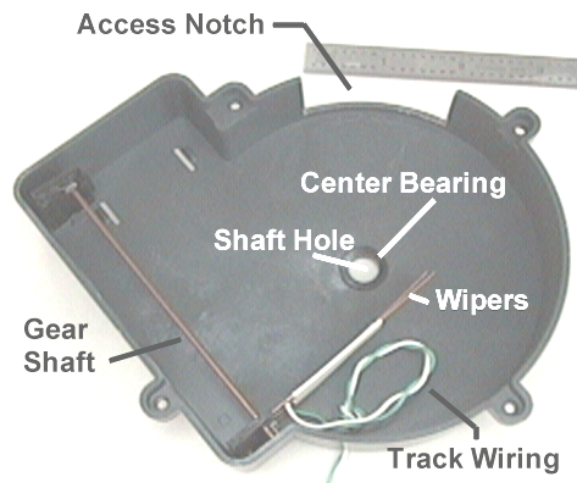

Figure 1: Walthers Motor Enclosure, Modified
The motor drive that comes with the Walthers Turntable will not be used, although the portion of the drive assemble that supports the bridge power wipers *will* be used since this is the only convenient way to get power to the bridge rails themselves. Refer to Figure 1, “Walthers Motor Enclosure, Modified” (below) to get an idea of what the final enclosure will look like.
- 5) Referring to Figure 1, mark a notch about 2" wide and 5/8" deep on the side of the motor enclosure.
- 7) Referring to Figure 1 and the standard Walthers turntable assembly instructions, install the gear shaft supports, gear shaft, shaft wipers, and wipers wires. Omit the Walthers motor and associated gearing. *Note:* The gear shaft is installed primarily to provide additional structural strength to the shaft support holding the shaft wipers. It is not otherwise needed by the PTC. **◆Tip:** If you have some on hand, install heat shrink tubing over the bridge wipers prior to final assembly. This has been found to help prevent short circuits if the wipers become loose within the enclosure.